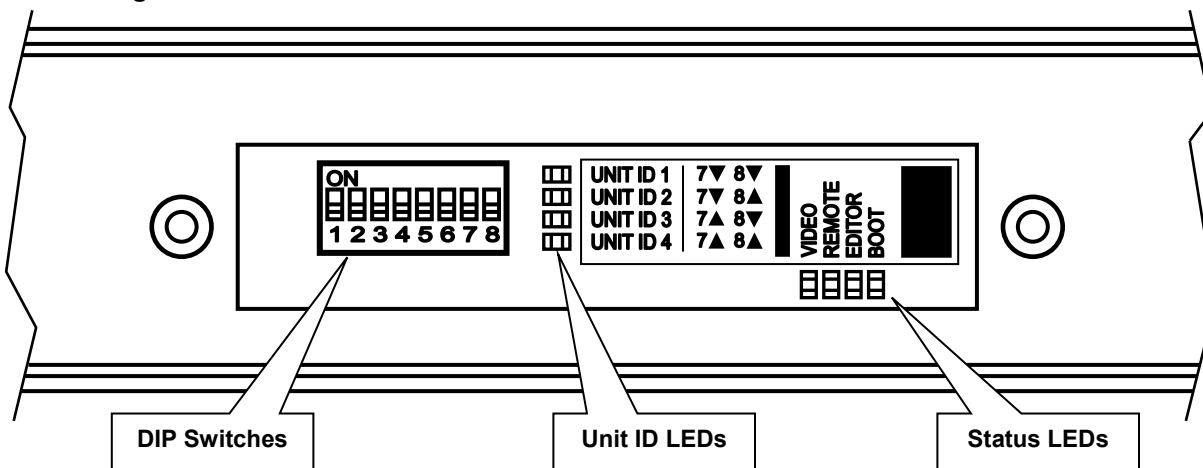

Figure 2.10.1. Main Unit Front View (Front Cover Removed)
The Smart Remote 2 is software configured to be the Master with up to four (4) Ultimatte-11 units as slaves. Only the Master can initiate a message exchange. The Ultimatte-11 is shipped with a factory default ID of number 1. When more than one unit needs to be connected, each should be assigned a different number (1, 2, 3 and 4) only. Each unit will respond only when it is addressed. The ID number is selected by setting Dip Switch 7 and 8 and indicated by LEDs. The front panel must be removed to access these switches (see Figure 2.10.1).
There are four Unit ID LEDs corresponding to the Main Unit ID number. The location of the LEDs is in the front of the Main Unit with the front cover removed (see Figure 2.10.1). The Main Unit ID number is configured by setting DIP Switches 7 and 8 (refer to Table 2.10.1)
There are four Status LEDs that provide status information. The location of the LEDs is in the front of the Main Unit with the front cover removed (see Figure 2.10.1).